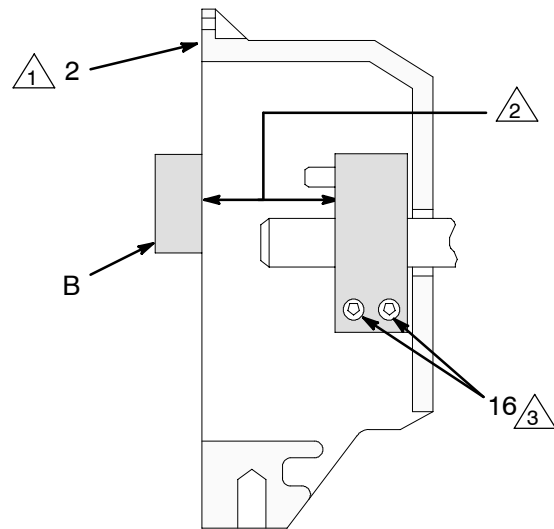

Fig. 19
3. Press the **clamp (3)** onto the engine shaft (A). Maintain the  $1.99 \pm 0.01$  in. ( $50.55 \pm 0.25$  mm) dimension shown in Fig. 19.